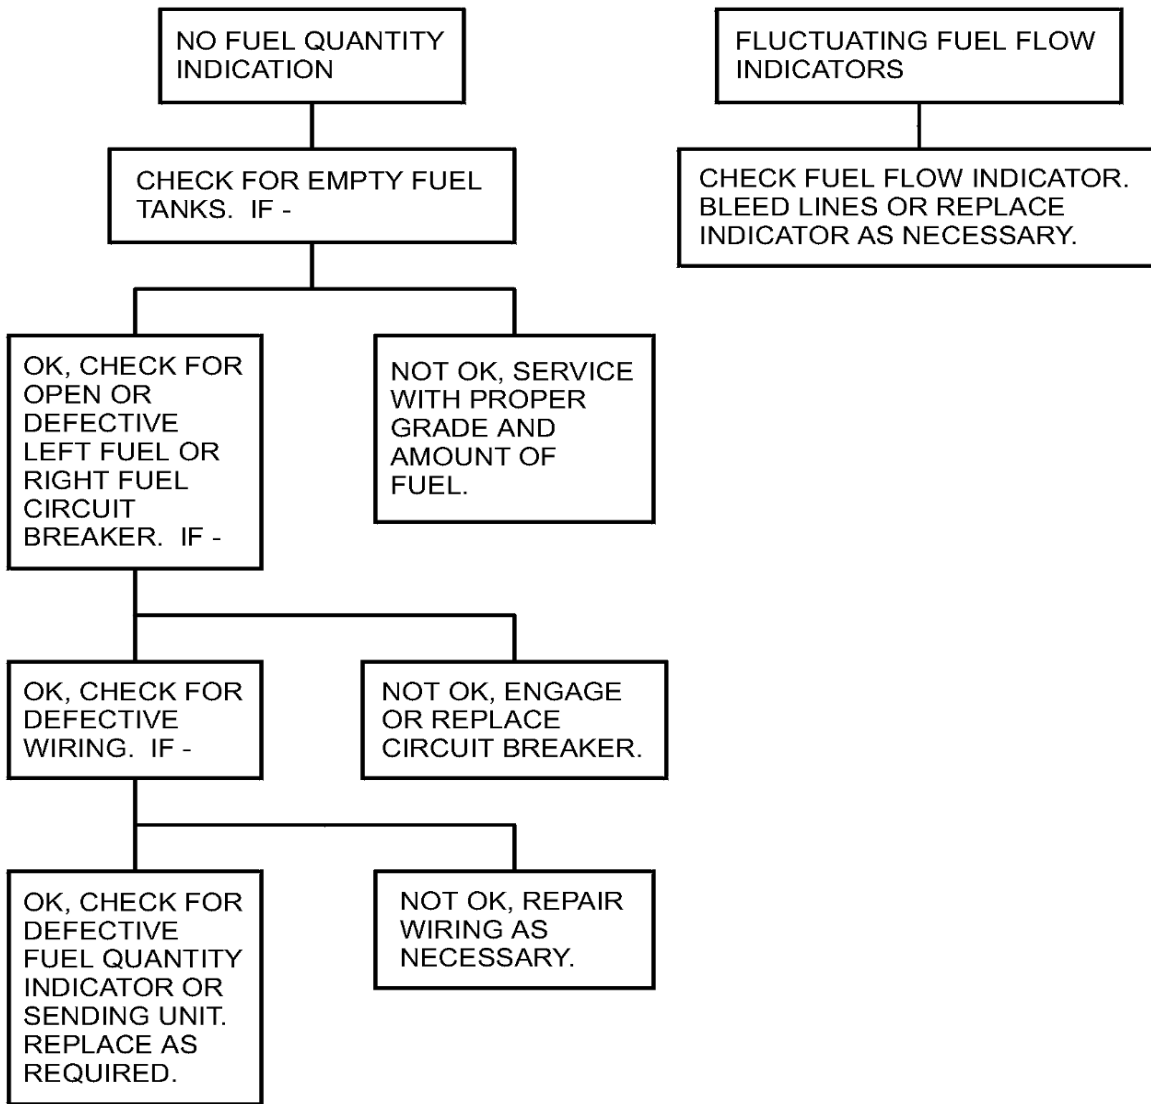

Figure 105 : Sheet 1 : Boost Pump Troubleshooting (PT6A-140)
- (5) For boost pump operation problems for airplanes with the PT6A-140 engine installed Figure 105.
- (1) To troubleshoot boost pump problems for airplanes with the PT6A-140 engine installation refer to Figure 105.